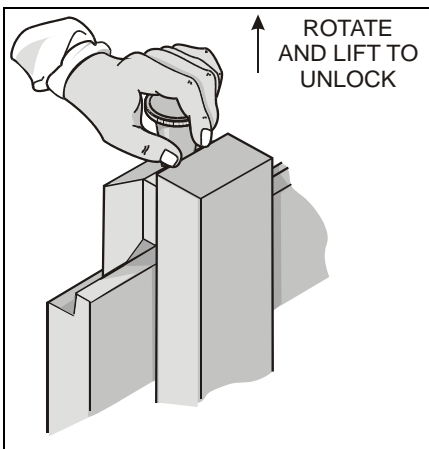

Figure 4-9: Manual Forks Adjust
2. Rotate and lift the fork locks up. **See Figure 4-9.**